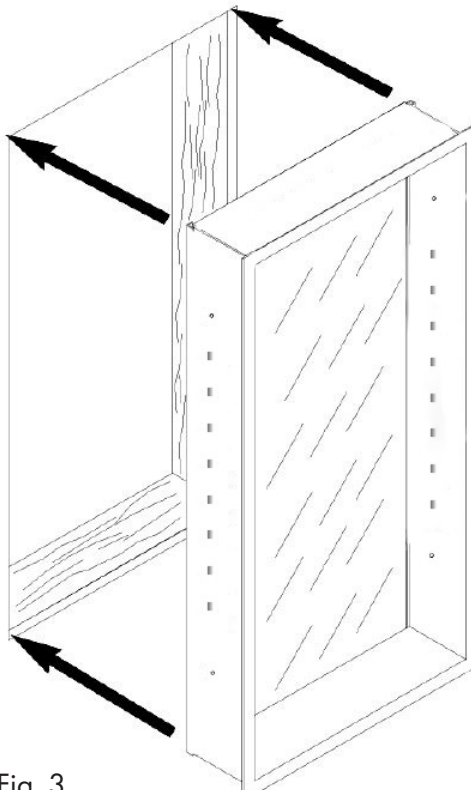

Fig. 3
3. Single door cabinets can be inverted in for right or left hand installation. Locate the hinge to properly select door swing desired. Insert cabinet into wall opening making sure the flange covers the rough wall opening evenly. You may need to insert shims as needed (not included). (Figure 3)